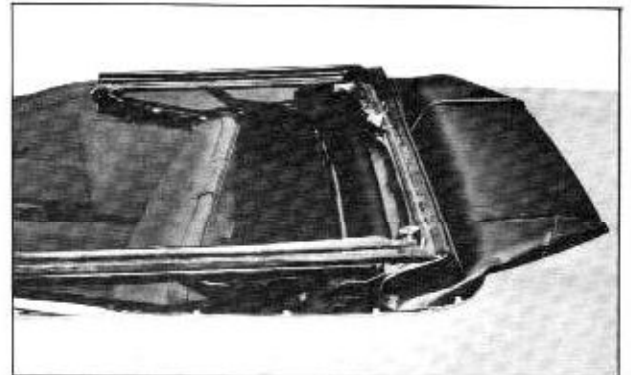

Fig. 15-69 Corners Folded
8. Fold over corners of top material. (Fig. 15-69)